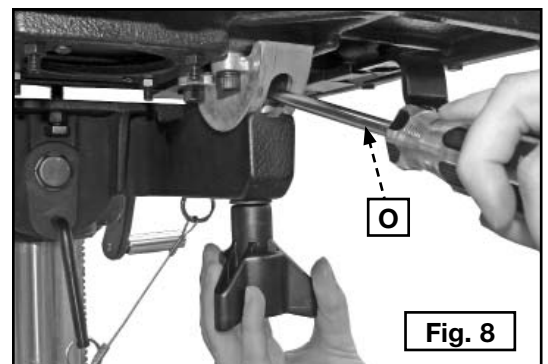

Fig. 8
NOTE: The bolts in the trunnion are moveable. To install knobs more easily, insert a flathead screwdriver (O) Fig. 8 in the opening of the trunnion against the bolts to steady them.